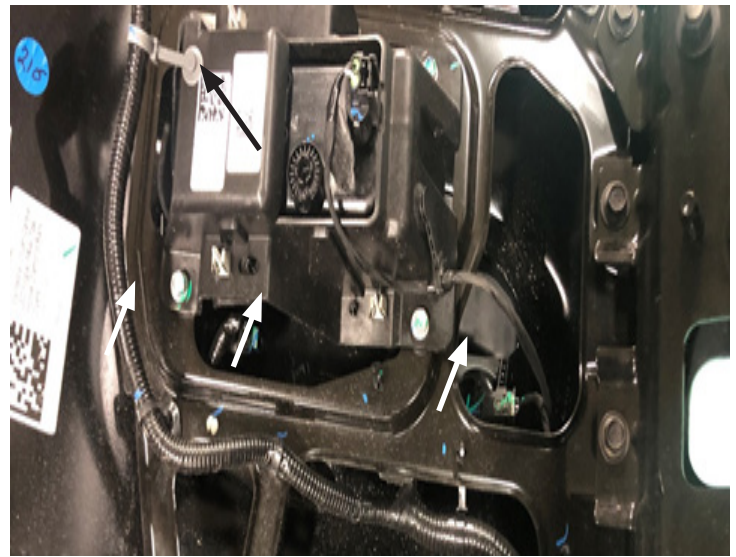

Figure 16
15. Use an 8mm socket wrench to remove the four (4) OEM bolts holding the OEM fog lights into the bumper. Set fog lights aside for later use. (Figure 16)